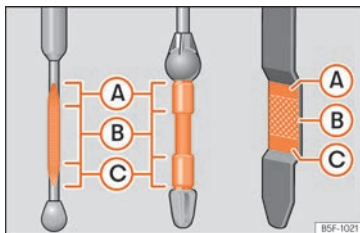

Fig. 310 Engine oil dipstick.
- Then pull it out once more and check the oil level »» Fig. 310. Top up with engine oil if necessary.
If the oil level is above area »» **Fig. 310 A**, do not start the engine. This could result in damage to the engine and catalytic converter. Contact a specialised workshop.
The oil level must never be above zone »» **Fig. 310 A**. Otherwise oil can be drawn in through the crankcase breather and leak into the atmosphere via the exhaust system.